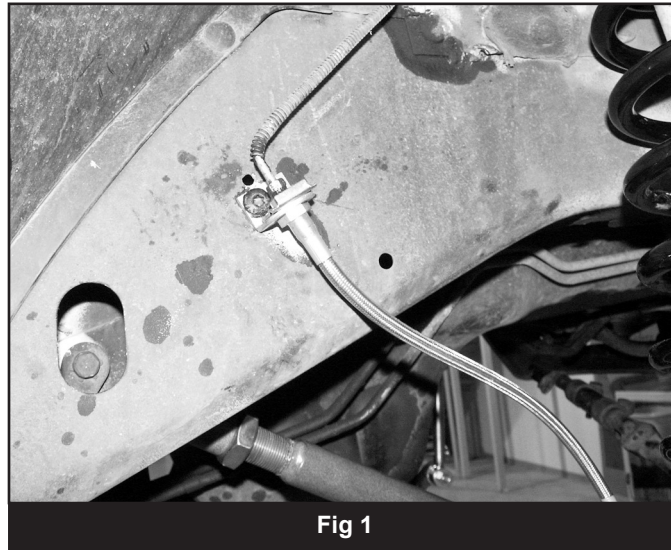

Fig 1
9. Remove fasteners holding brake line anchors to frame on driver's and passenger's side. (Fig 1)
12. Install new upper brake line bracket with OE bolt. (Fig 1)